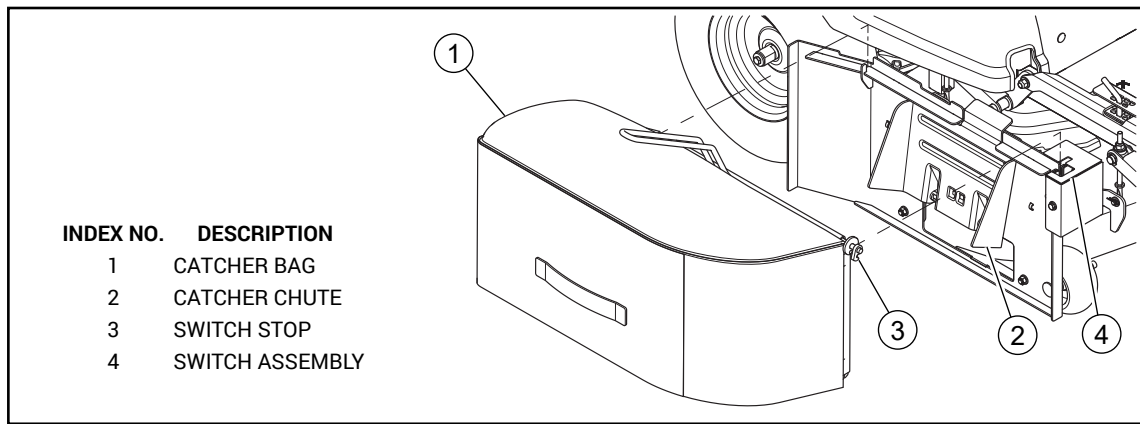

FIG. 11
14. Install the catcher bag. Make sure the switch stop is correctly inserted into the DFS switch assembly. Fig. 11